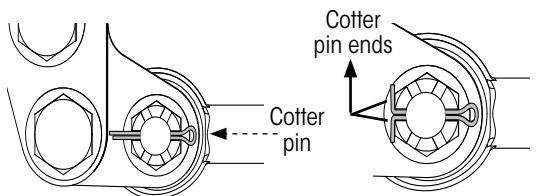

Figure 16: Tie rod end cotter key install
5. **Insert** the cotter pin through castle nut and tie rod end, as shown in Figure 16.